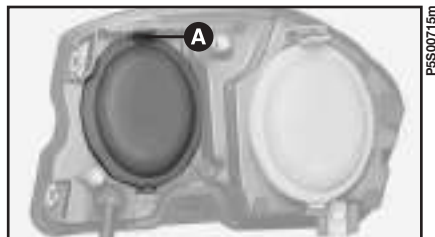

fig. 14
1) Remove the protective cap by pulling tab **A**-fig. 14 downwards.